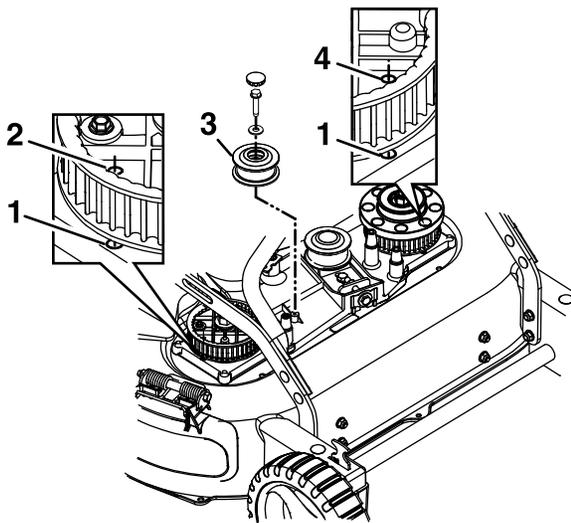

Figure 28
6. Remove and retain the fixed idler pulley and its hardware (see Figure 28).
8. Align the holes in the RH and LH sprockets with the holes in the deck as shown in Figure 28. Hold the sprockets in place with a rod or screwdriver.